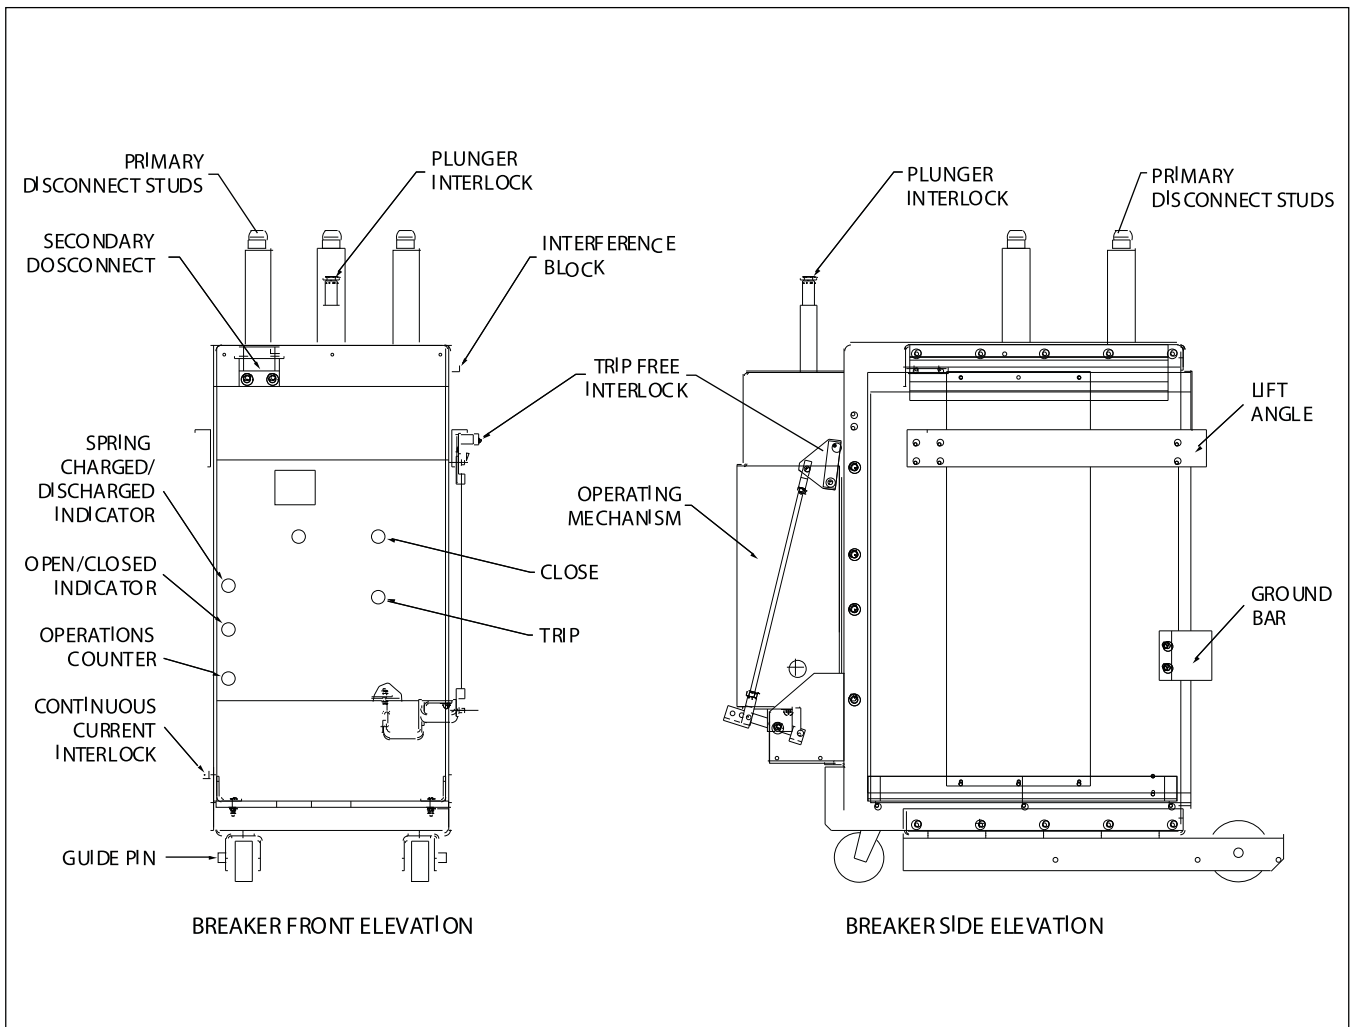

Figure 5. Continuous Current Interlock (Circuit Breaker in Connect Position)
3. With the circuit breaker charged, electrically or manually perform a close operation on the circuit breaker. The circuit breaker should latch closed, indicated by the close-open indicator (**Figure 5**, page 11).